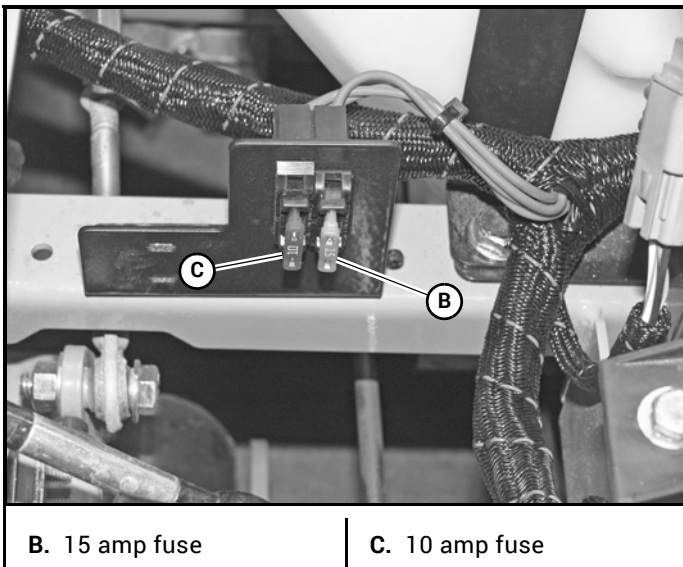

Figure 4-2
- B. **Deck clutch fuse (15 amp)** – This fuse protects the deck clutch. It is located under the seat platform next to the battery. Figure 4-2
- C. **Ignition/Safety system fuse (10 amp)** – This fuse protects the ignition and safety circuit components. It is located under the seat platform next to the battery. Figure 4-2